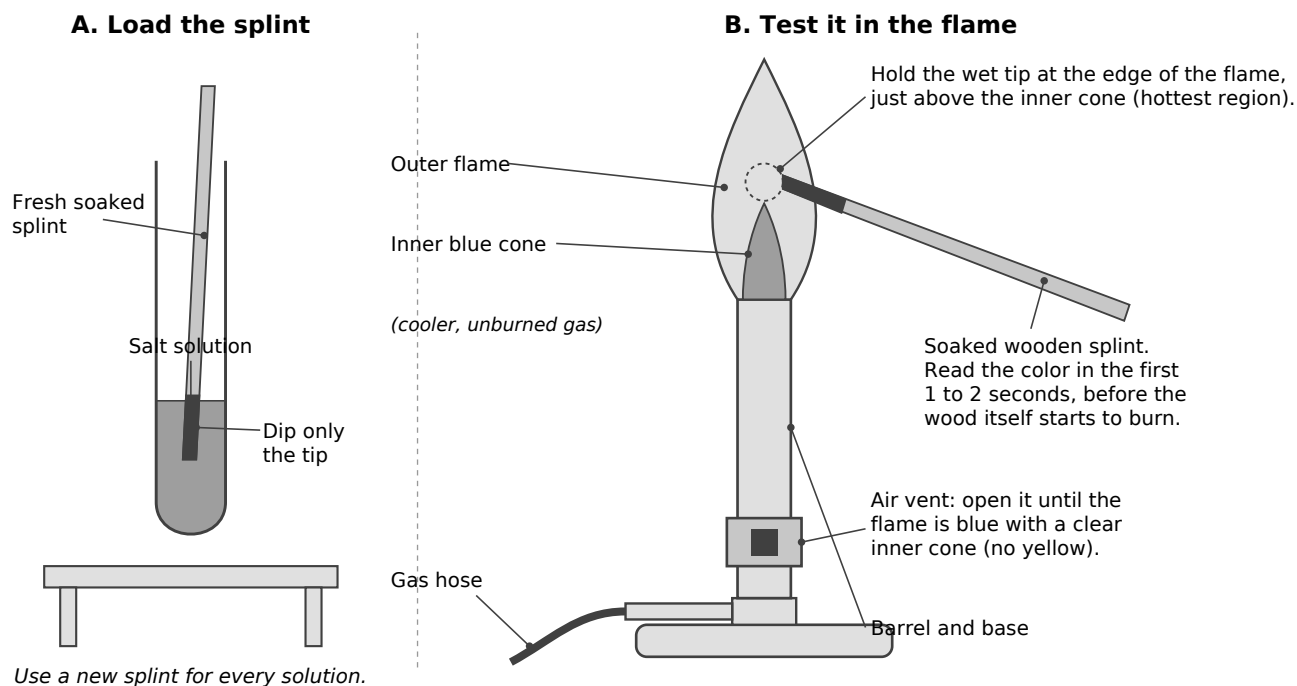

Figure 1: Loading a splint (A) and holding it in the correct region of a Bunsen burner flame (B).
- **Class:** 5 minutes safety and Figure 1 walkthrough, about 25 to 30 minutes of testing, 10 minutes cleanup and debrief.